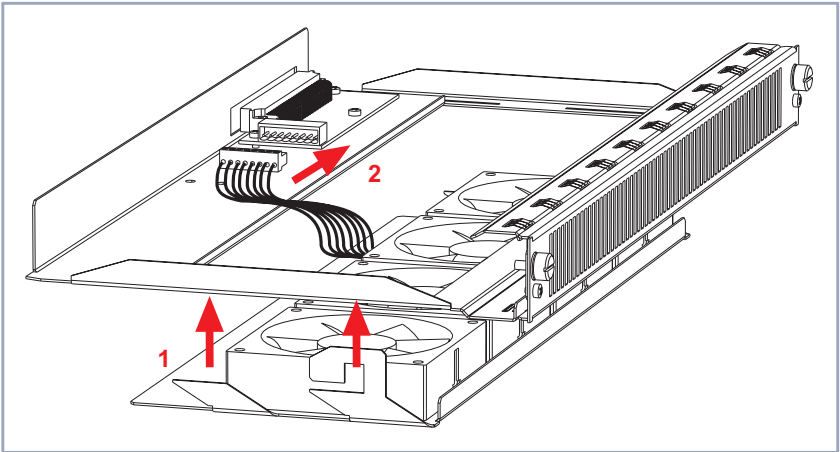

Figure 1-2: Inserting the fan insertion into the fan cassette
- Insert the fan insertion into the fan cassette as shown in figure 1-2, page 17, arrow no. 1.
- Connect the fan insertion plug to the fan cassette as shown in figure 1-2, page 17, arrow no. 2.